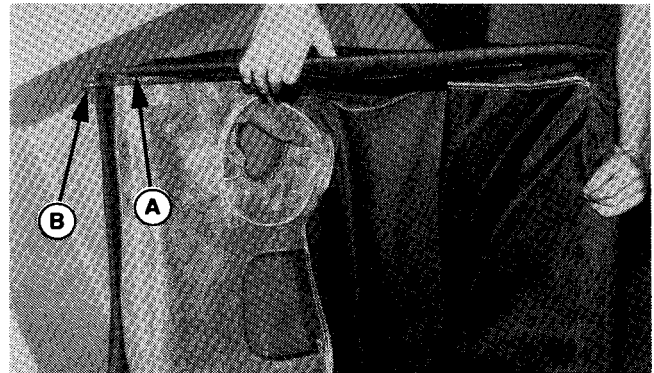

Figure 9.
- c. Pick up the cover by holding the rods and place the support rod inside the frame rod before hooking the frame rod (A, figure 9) through the eyelet of the support rod (B) on each end.